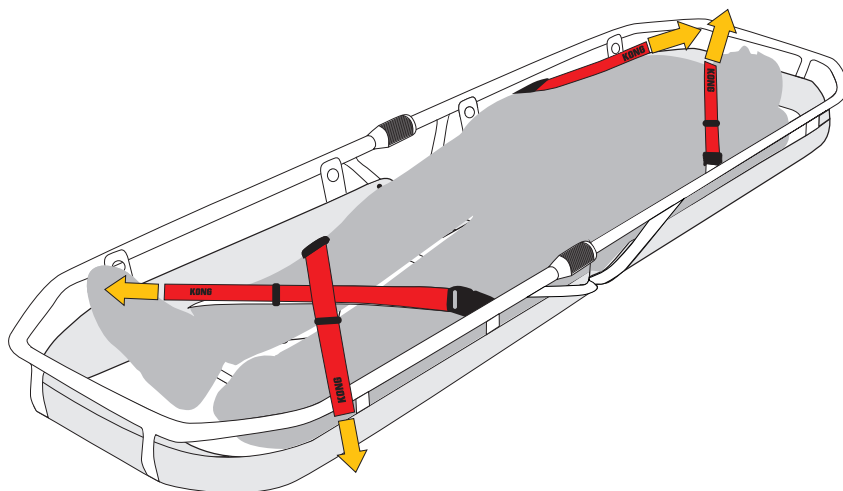

Fig.10
- lay the patient in the stretcher, hook on the buckles and tension the straps until they secure the patient (fig. 10).